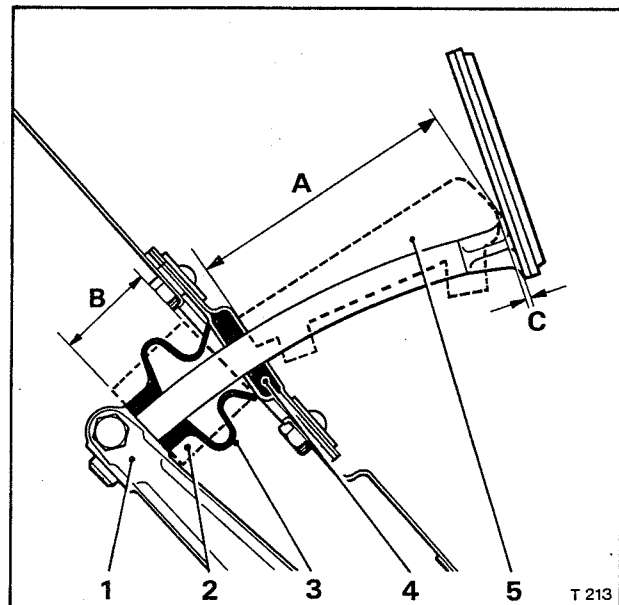

Fig. G18 Brake pedal height settings
#### Brake pedal height setting (see Figs. G18 and G19)
1. Locate the setting gauge into the brake pedal stem hole in the end of the pedal lever (see Fig. G18). Raise the pedal lever until the gauge touches the underside of the toe-board seal housing.
1. Place the checking template as shown in Figure G18 between the underside of the brake pedal and the upper surface of the pedal seal housing with the two lugs of the gauge located under the pedal stem. Rest the flat base of the template on the seal housing. Ensure that both carpet and underlay are removed from the housing surface.